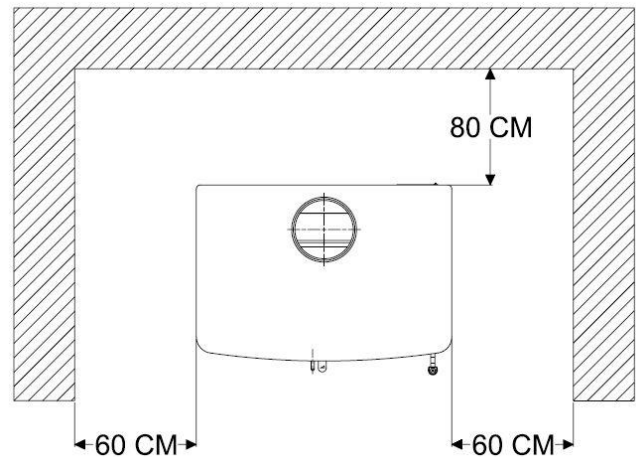

FIG. 6 - SAFETY DISTANCES
- When installing the stove, observe the necessary safety distances for the stove and chimney from combustible surfaces (wooden or papered walls, wooden floors...). Safety distances must be respected when the lining on walls or nearby areas may be damaged or deformed by temperature (varnish, paint, PVC...). Fig. 6